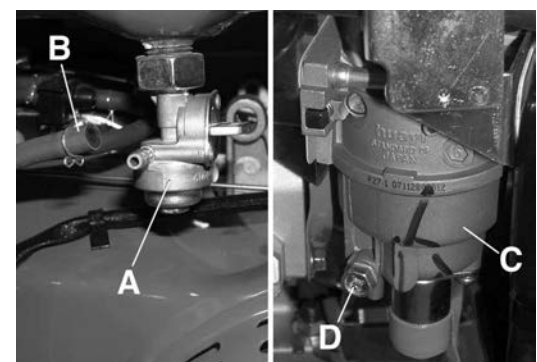

Figure 12
- 3) Turn fuel shut-off valve (A) Fig.12 to the "OFF" position.
- 4) Disconnect the fuel hose (B) from the fuel cock.
- 5) Turn fuel shut-off valve to the "ON" position and drain fuel from tank. Pivot the fuel cock outwards to simplify the task as shown in Fig.12.
- 6) Remove drain hex. bolt (D) from the carburetor (C) and drain the rest of the fuel found inside the carburetor and hose.